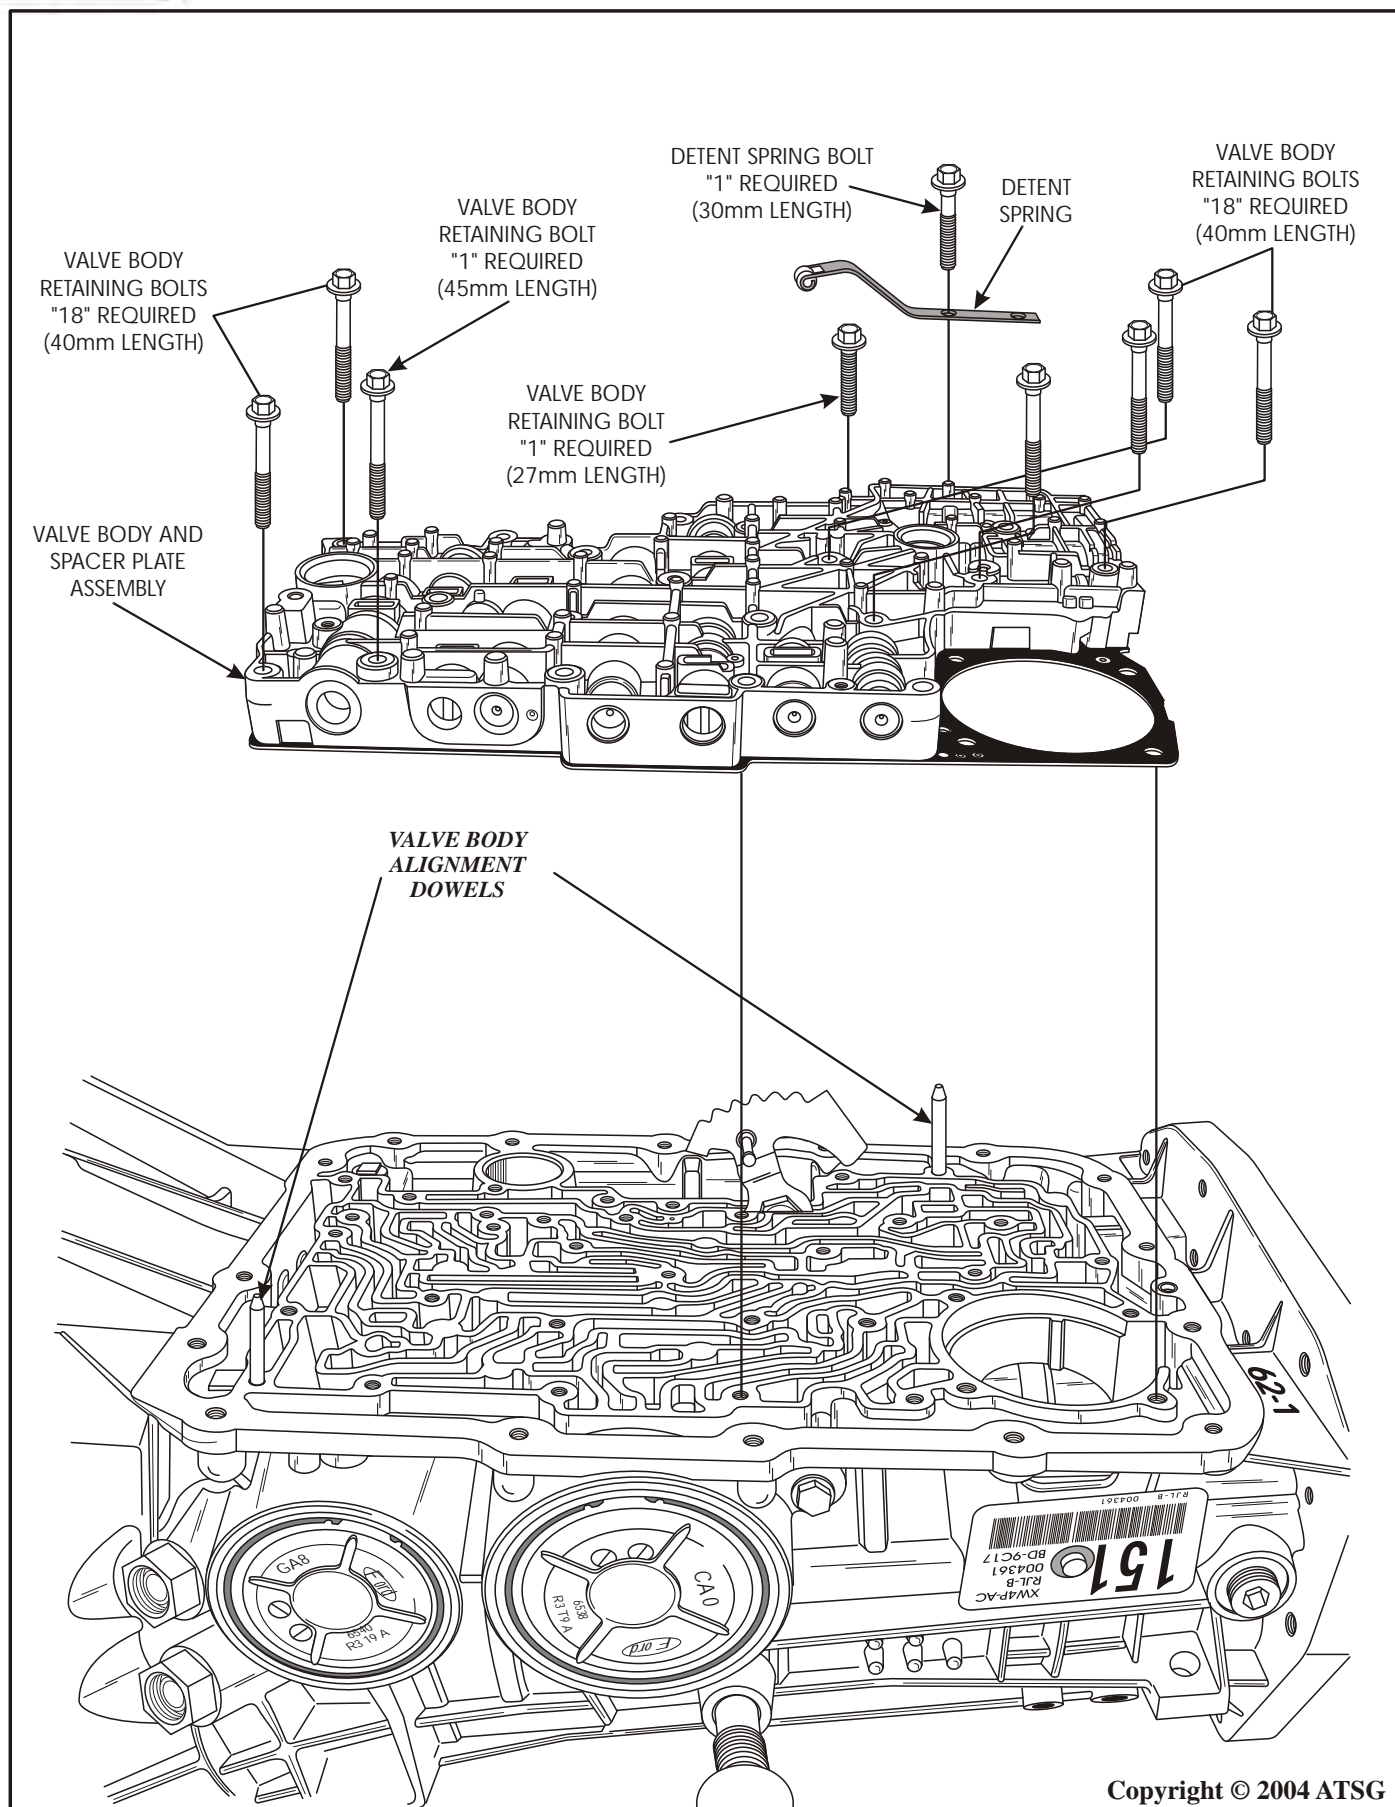

Figure 171
67. Install the two valve body alignment dowels in the locations shown in Figure 171.
68. Install the pre-assembled valve body and spacer plate, as shown in Figure 171.
73. Install the detent spring assembly, as shown in Figure 171, using the only 30mm length bolt, and finger tighten only at this time.